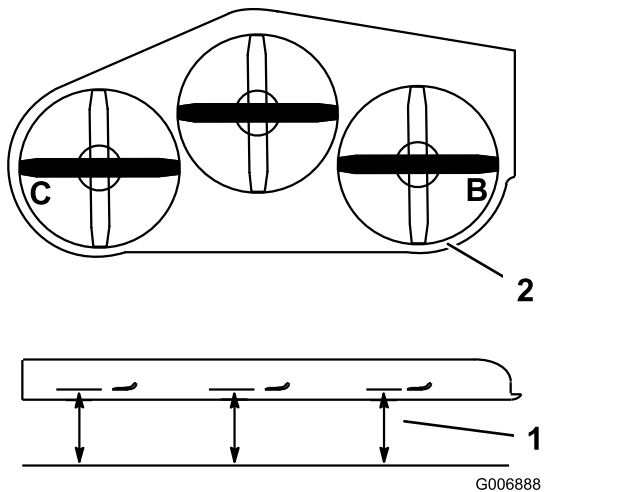

Figure 97
1. Position the **right** blade side-to-side (Figure 97).
4. Position the left blade side-to-side (Figure 97).
5. Measure the left blade at the **C** location (Figure 97), from a level surface to the cutting edge of the blade tip.